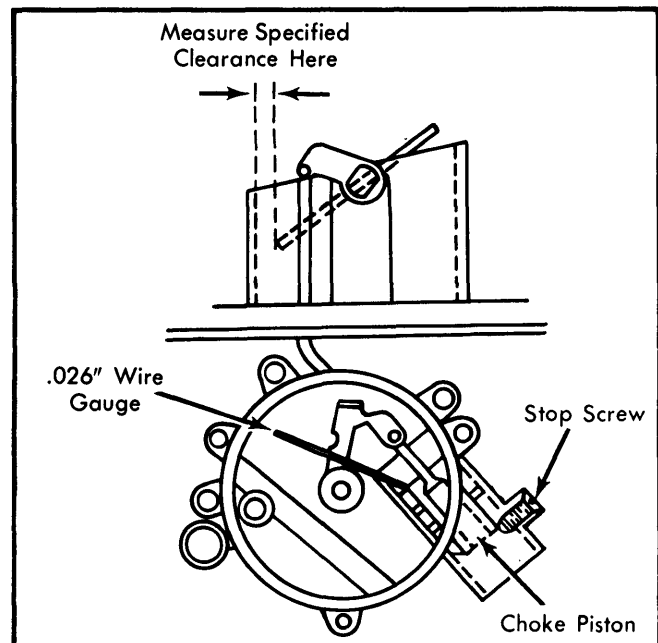

Fig. 4 Choke Pulldown Adjustment
1) Remove choke thermostat housing, gasket and retainer. Insert a .026" wire gauge into choke piston bore. This moves piston down against stop screw. See Fig. 4.